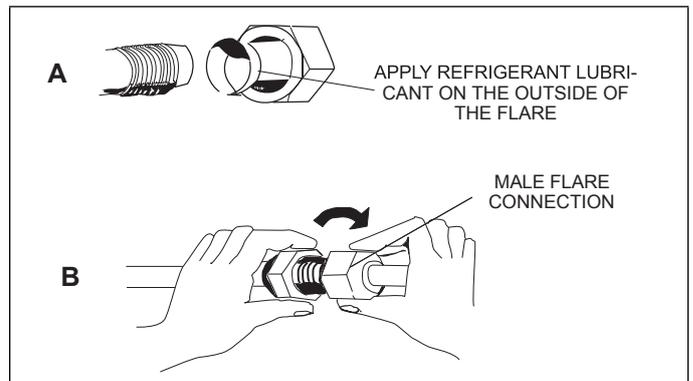

Figure 28. Making Connections (Male to Female Connection)
15. Align the threaded connections with the flared refrigerant lines. Tighten the flare nuts lightly at first to obtain a smooth match as illustrated in "Figure 28. Making Connections (Male to Female Connection)".